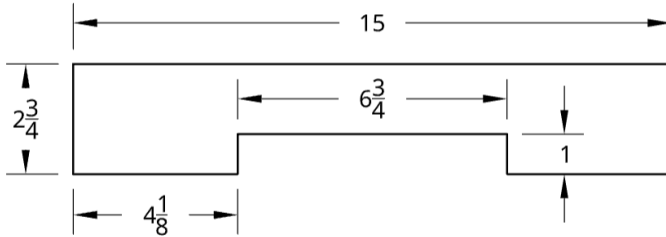

Figure 13. Manufacturing Steps 10-11
11. On one of the long sides, using a laser cutter or Dremel, cut a rectangle 1" deep into the piece and $6\frac{3}{4}$ " wide. This cutout should start $4\frac{1}{8}$ " down from the top of the sheet (see figure 13).